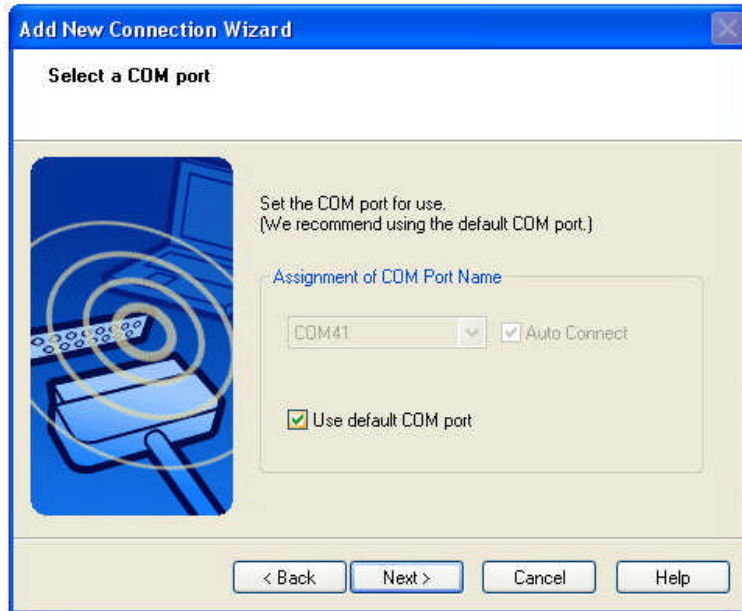

Figure 3.6: Select a COM port
- e. Select a COM port to use, and click the “Next” button. (Figure 3.6)